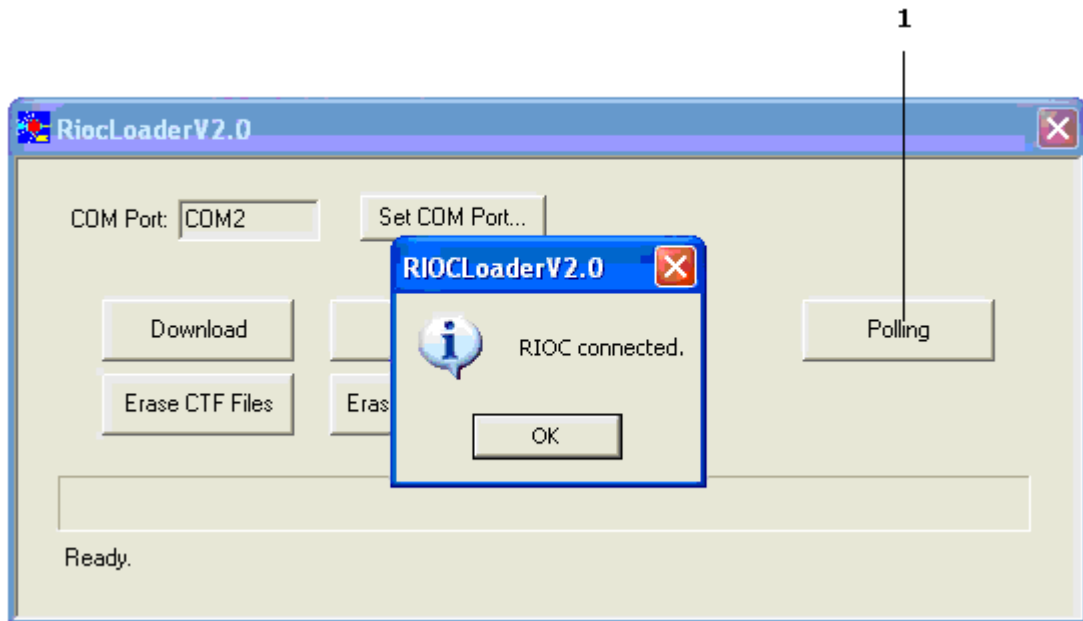

Figure 2
- (9) Wait 20 seconds, then select the Polling button (Ref. Fig 2, Item 1).
- (10) Make sure that the “RIOC connected” message is shown on the RIOC Loader V2.0 dialog box (Ref. Fig 2), then click OK.